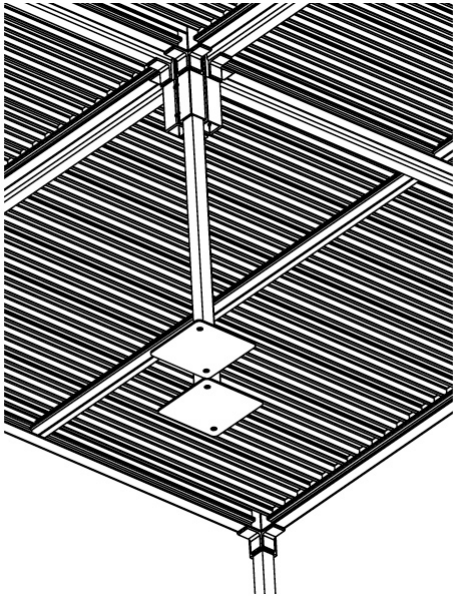

FIG. 9
- 1.7.8.2 Where four platforms come together, the two legs should be oriented so that they are diagonally opposite from each other (FIG. 9).